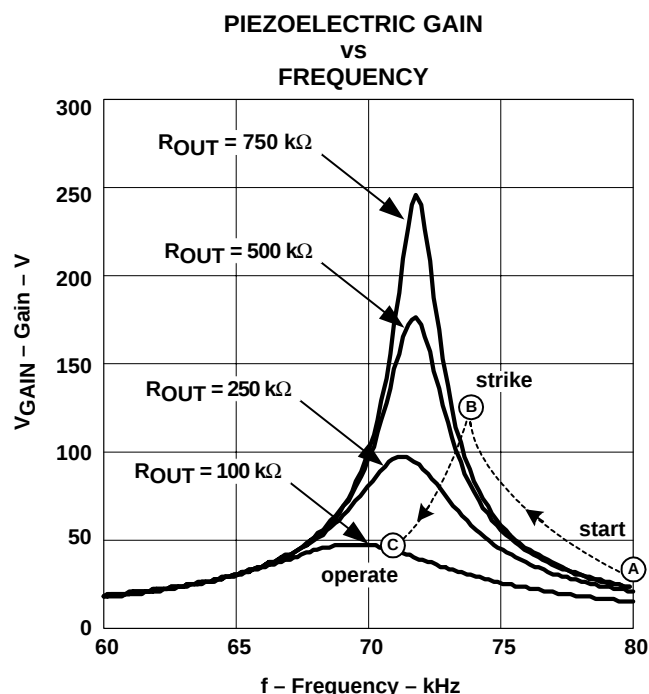

Figure 9
Figure 9 illustrates the gain-vs-output load and frequency characteristics for a 12-layer, 70-kHz PZT with the following Figure 8 values:
As shown in Figure 9, the ceramic transformer provides high Q and gain under light or no-load conditions producing a high-strike potential. Once the lamp strikes the transformer becomes loaded, causing the transformer gain to decrease and resonant frequency to shift. The piezoelectric transformer is typically operated on the right side of resonance to allow the lamp to be struck and operated with a single direction control circuit. A typical application has separate start (A), strike (B), and operating (C) frequencies (see Figure 9).
A cold cathode fluorescent lamp has non-linear V-I characteristics as shown in Figure 10. The lamp's intensity (lumens) is roughly proportional to lamp current where lamp voltage remains somewhat constant over the operating range. Lamp voltage is dependant on the diameter and length of the lamp used in the application. This results in increased impedance when the lamp is dimmed. The impedance of the lamp will influence the gain of the piezoelectric transformer (see Figure 9) and thus the operating frequency of the system.
The frequency range of the VCO must include the strike and operating frequencies of the PZT with some tolerance included for component variation. Minimizing the programmable range improves the control response of the feedback loop. For example, a frequency range of 67 kHz to 77 kHz might be used for the PZT in Figure 9. The gain of the PZT must guarantee sufficient lamp voltage at minimum input voltage to ensure that the control loop will always operate on the right side of resonance.
Feedback design with a PZT requires both modeling and measurement. The uncompensated feedback gain for the system is primarily affected by the gain slope of the PZT near its resonant operating frequency as shown in Figure 9. For most designs, the safe unity gain crossover frequency of the feedback loop will be determined by the amount of gain peaking that occurs at the resonant frequency of the PZT transformer.  $R_{FB}$  and  $C_{FB}$  are selected to have a fairly low crossover frequency to ensure that the system gain does not increase above unity at the resonant switching frequency. Since the gain slope is dependant on the lamp load and PZT model, it is recommended that a network analyzer is used to validate sufficient gain and phase margin for the design.
- What is the gain of the transformer at various load conditions? (see Figure 9)
As an example, suppose a piezoelectric transformer is selected that operates efficiently at 67 kHz (similar to Figure 9) and has 0.2- $\mu$ F of primary capacitance. An external inductance value of 15  $\mu$ H gives a L-C filter corner frequency of 92 kHz. The L-C circuit would provide little attenuation at 67 kHz yet attenuate higher harmonics.